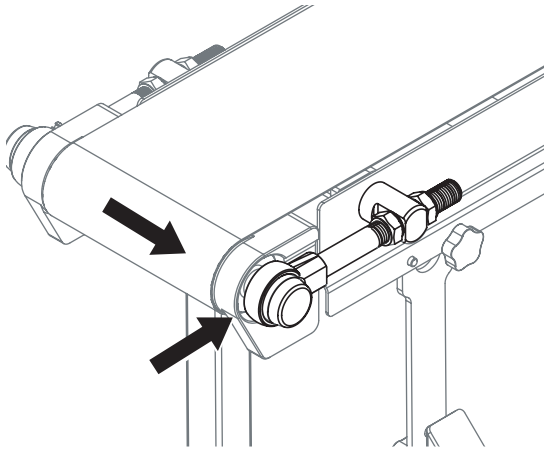

Figure 52
- a. Loosen the nut to shorten the length of the idler tail shaft and bring the belt closer to that side of the conveyor (Figure 52).